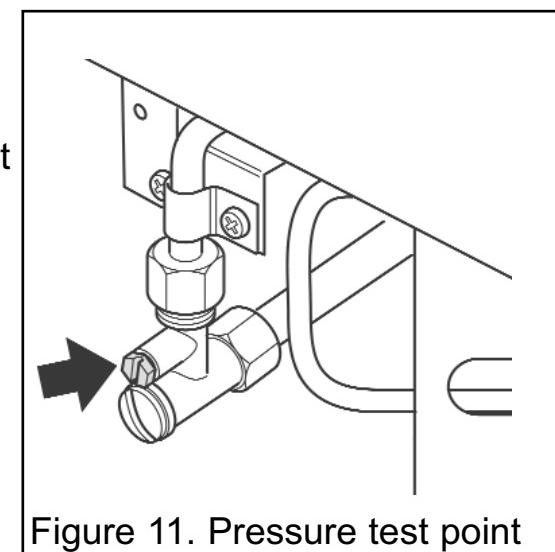

Figure 11. Pressure test point
**1.** Ensure that the fire is OFF. Check the inlet pressure by fitting a pressure gauge at the test point. The test point is on the inlet 'T' connector (See figure 11). Check the pressure with the appliance alight and set at maximum output.